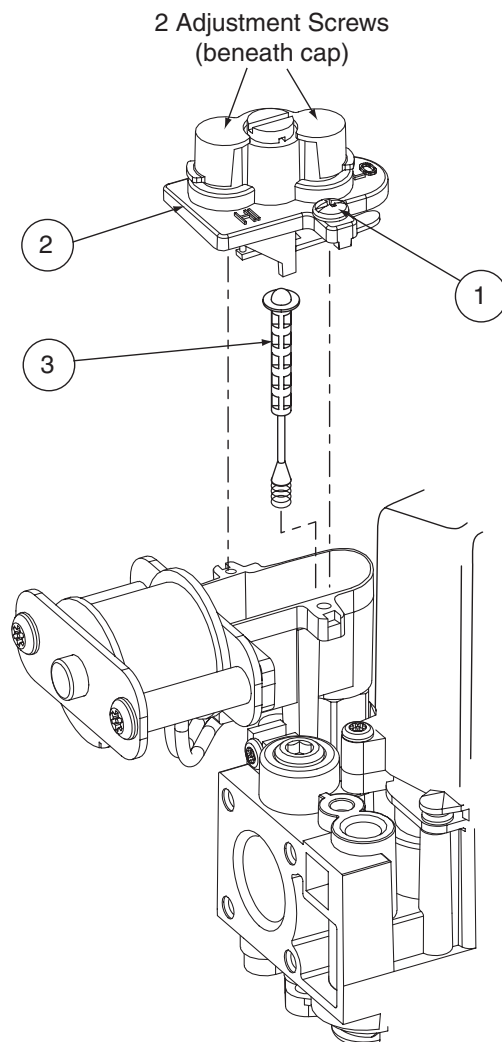
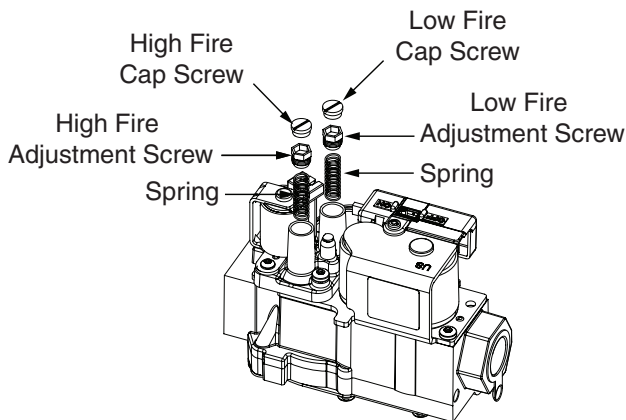

Figure 4. Spring / Stem Assembly Removal
Figure 5. Pressure Regulator Spring & Adjustment Screw Removal
1. Remove two screws (1) securing the pressure regulator cover assembly (2) to the gas valve. See Figure 4.
2. Remove the pressure regulator cover assembly (2) from the gas valve.
3. Remove and discard the existing stem/spring assembly (3) from the gas valve.
4. Install the replacement stem/spring assembly (3) from the conversion kit.
5. Reinstall the pressure regulator cover assembly (2) onto the gas valve.
6. Install the two screws (1) and tighten.
- Remove the HIGH fire cap screw. See Figure 5.
2-stage gas valve: For VR8205Q2381 models, remove the plastic cap covering the adjustment screws (Figure 4 page 5). For VR9205Q1127 models, remove the cap screw (Figure 5, page 6).
See Figure 4 for VR8205Q2381 models or Figure 5 for VR9205Q1127 models.